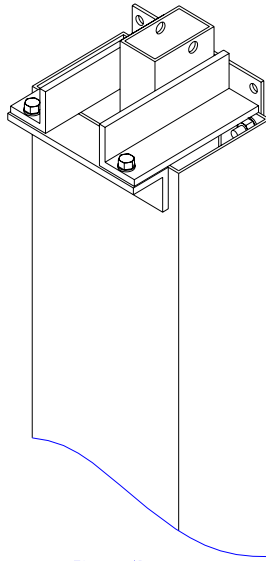

Figure 13
- B.** One end of each cable should already be attached to each carriage. Feed the other end of the cable up behind the mainside hose and through the top of the leg as shown Figure 13.